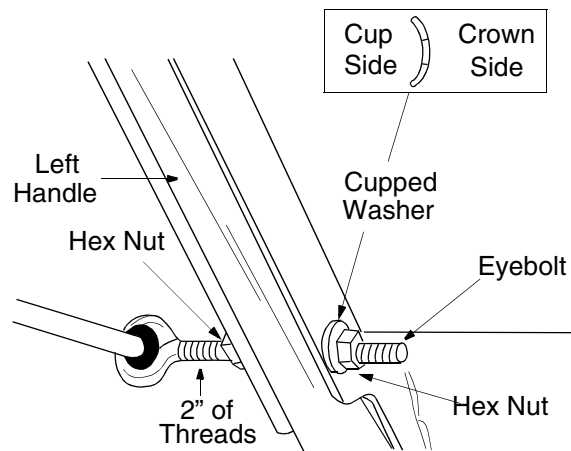

Figure 11
3. Thread one hex nut onto the eyebolt on the chute crank assembly until there is at least two inches of threads showing between the nut and the head of the eyebolt. See Figure 11.
4. Place the eyebolt into the hole located half way up the left handle. Secure with cupped washer (cupped side against the handle, see inset, Figure 11) and hex nut.